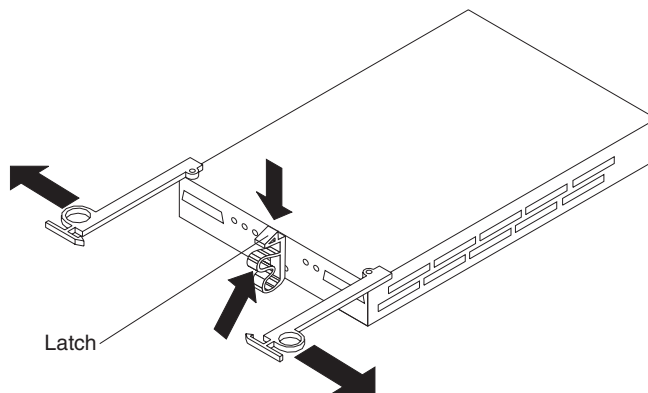

Figure 42. Removing the failed ESM
5. Be sure the Fault indicator LED is lit; then, push down on the ESM latch. The ESM levers will pop out of the locked position as shown in Figure 42.